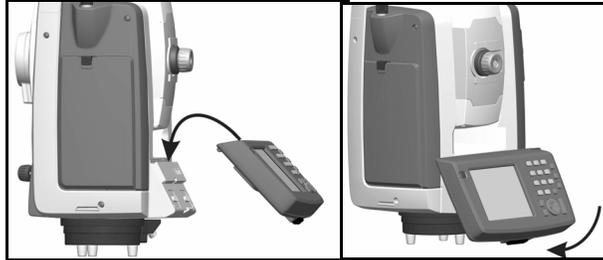

Figure 1.4 The Trimble CU
- a. Describe the Trimble CU and demonstrate how it attaches to the instrument. See Figure 1.4.